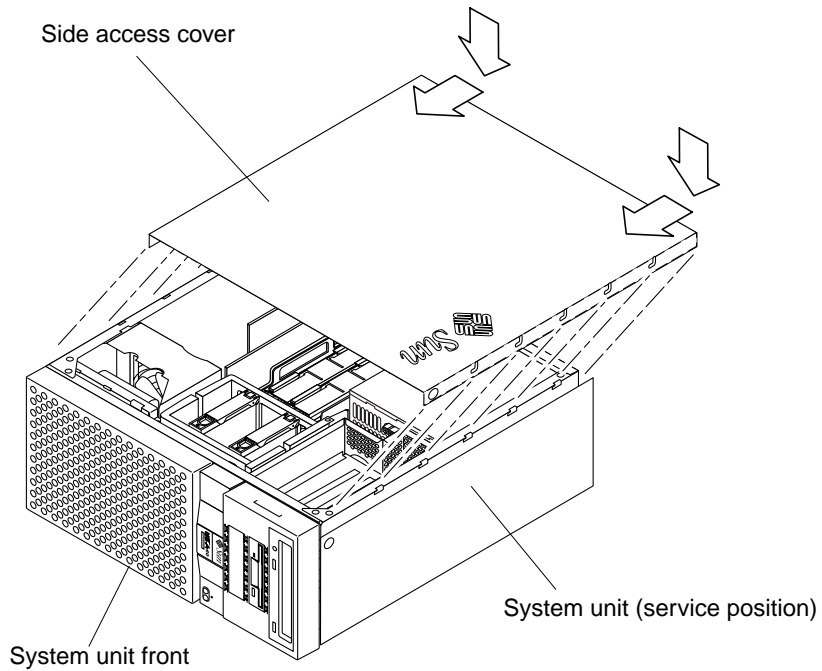

FIGURE 8-21 Replacing the Side Access Cover
- 11. Replace the side access cover (FIGURE 8-21).**